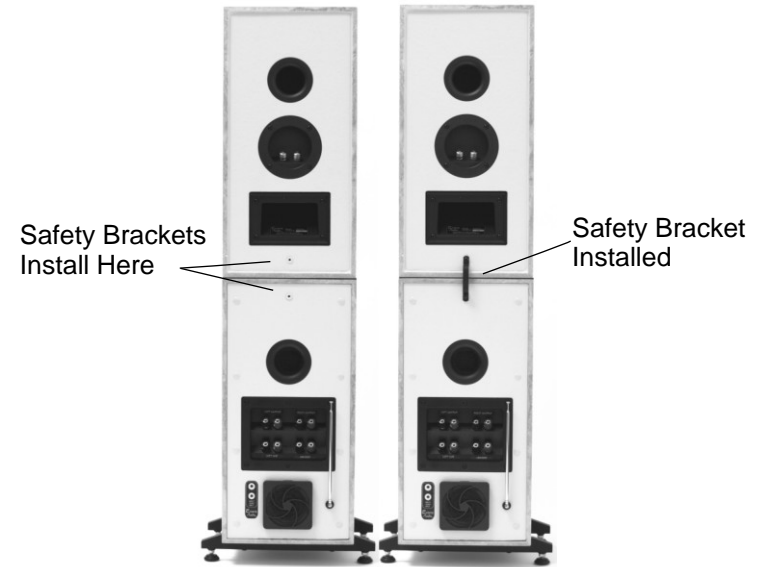

Fig. 9
7. Install two (2) Safety Brackets on rear of mounted speaker cabinets.
- 7a. Locate two (2) Safety Brackets, four (4) #8-32 x 1/4" stainless button head cap screws and four (4) washers.
- 7b. Using the provided 3/32" hex wrench, install the safety bracket on each of the right and left tower arrangements. See *Fig. 9* for details.